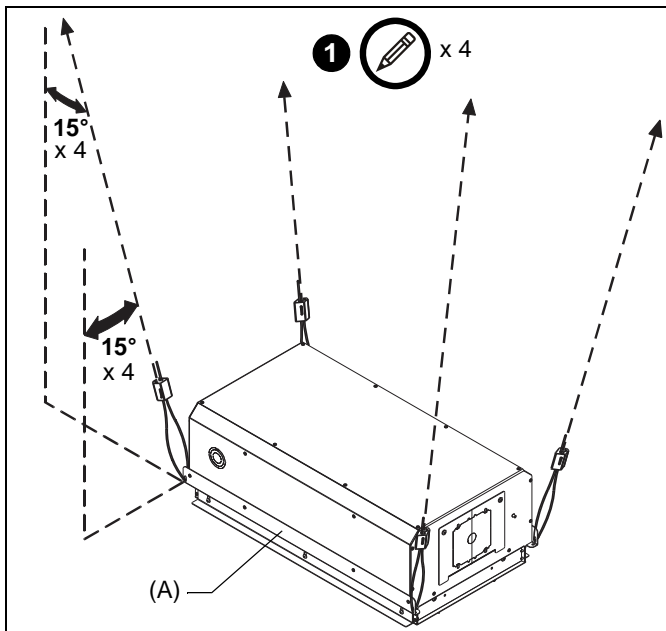

Figure 1
1. Examine ceiling structure (concrete, steel truss, or wood) above selected location to identify four support cable anchor locations. Each location should be approximately 15° outside of support holes in MSP-CACMS491 (A). Mark locations with pencil. (See Figure 1)